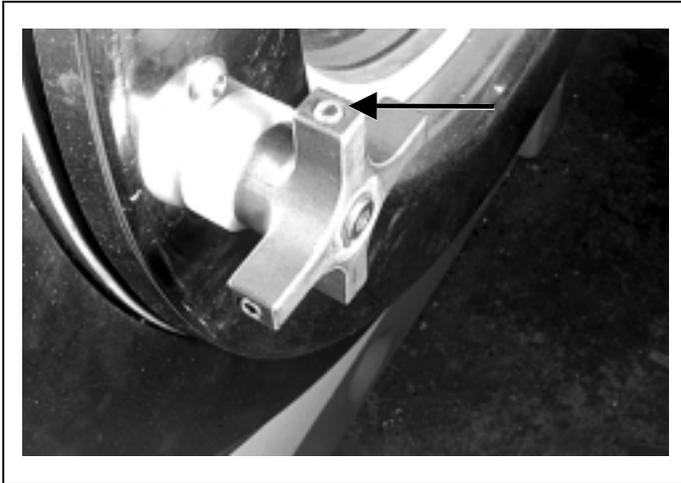

FIGURE 1 (MSSM0288AE)
2. Remove the set screw from the top spoke of the door handle (FIGURE 1). Hold a finger over the hole and turn handle with other hand until the spoke is at the six o'clock position. Release handle and put free hand under index finger. Remove finger from hole and allow spring and ball to fall into hand (FIGURE 2). If the spring and ball don't fall out, then rock handle slightly until both fall out.